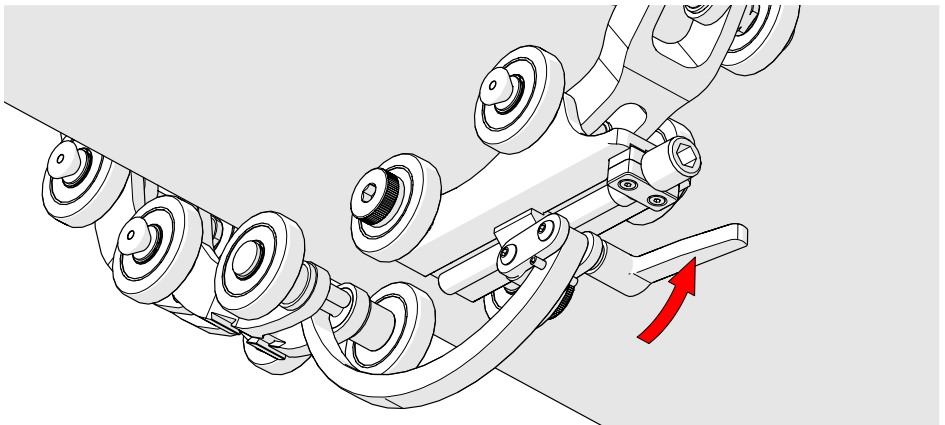

Fig. 75 - Press down to lock
7. Rotate the buckle adjustment knob (Fig. 74-1) until the buckle's lever can be pushed down, locking the buckle in place (Fig. 75). The tightness of the **ROTIX** on the pipe can be adjusted using the buckle adjustment knob (Fig. 74-1).